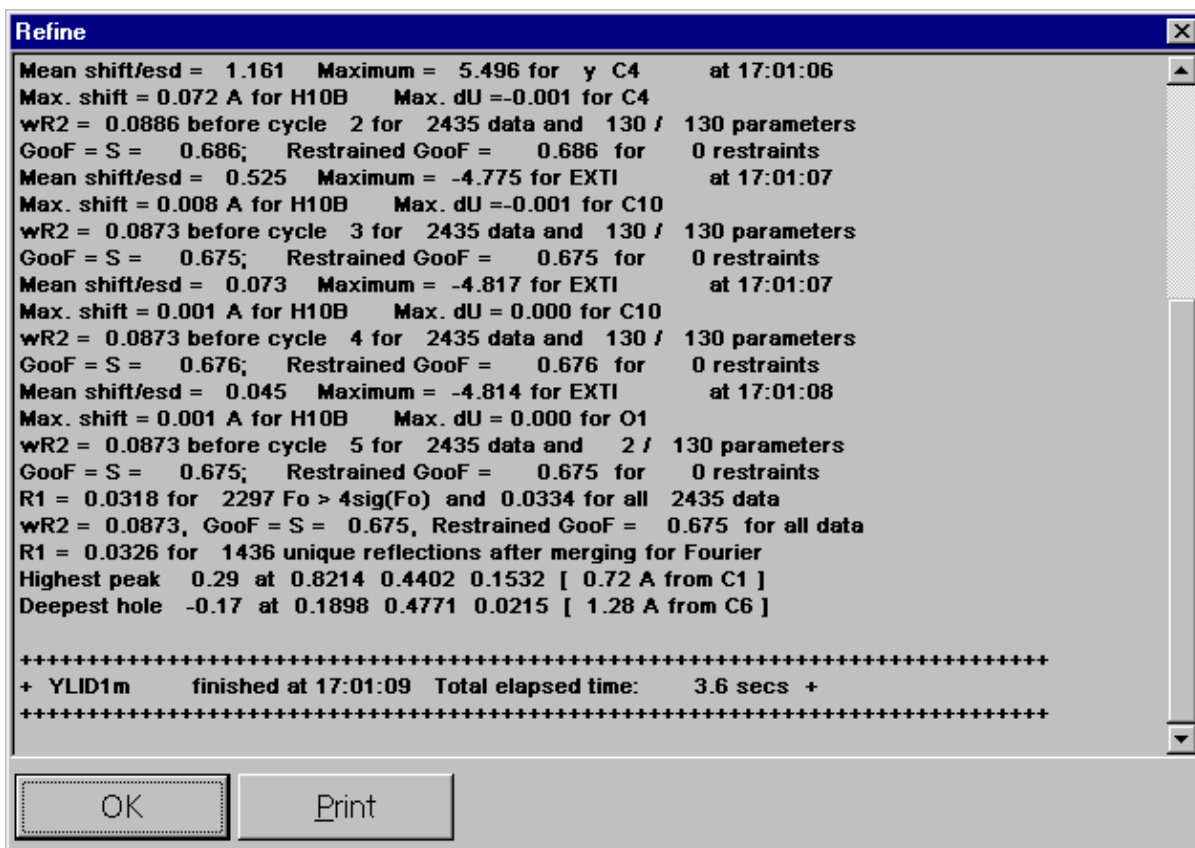

Figure 6-36. Least-squares refinement
42. Click OK to launch the XL (least-squares refinement) program (Figure 6-36).